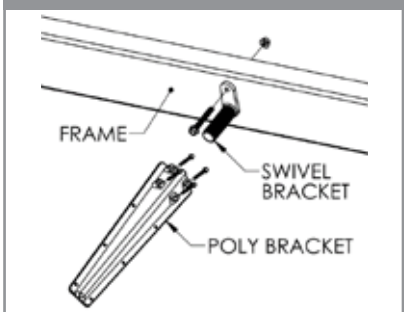

FIGURE 9
- Place four 5/16" x 3" bolts through the (10001464) poly bracket and the (10001485) backing block to clamp the (10001472/10001473) swivel. **(See Figure 9)**